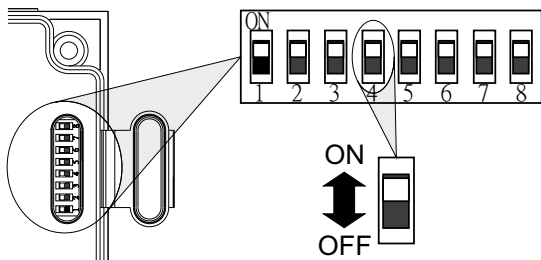

Fig. 10
The desired humidity level and run on time are selected by means of 8 dip-switches placed on the printed circuit board, and easily accessible. Each dip-switch has two positions [ON (1) and OFF (0)] which are selected with the small plastic screwdriver supplied with the fan (fig.10):